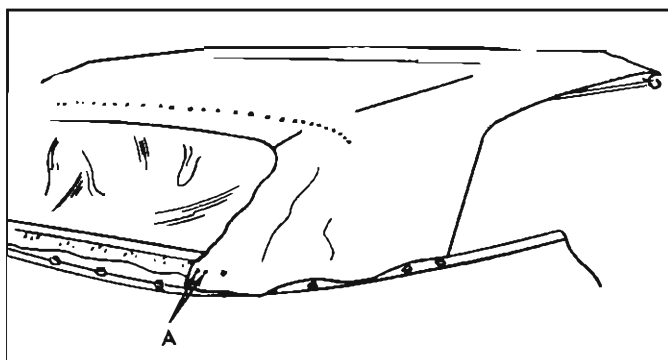

Fig. 58—Tacking Top Material
34. Using previously marked lines (ends of trim stick) as locating reference, tack top material to rear and rear quarter trim sticks. "A" in Figure 58 shows top material installed to rear trim stick at inboard edge.